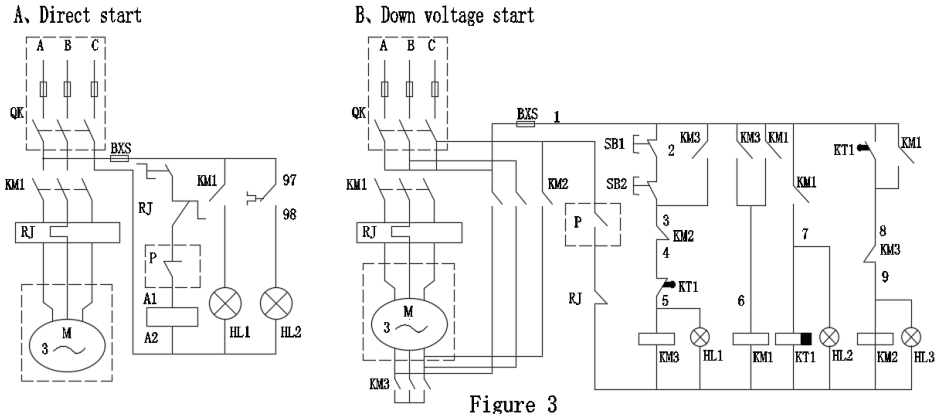

Figure 3
1. Three-phase electrical schematic diagram: see figure 3.